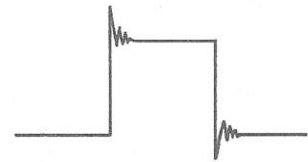

Figure 1
The sudden starting of an oscillator produces a sharp wave front with a possibility of over-shoot and the following stages running class C further sharpen the wave front. This transient response results in harmonics which splatter over adjacent frequencies causing key clicks. See Figure 1.
- () Referring to Figure 1 in this manual, drill three 5/32" diameter holes in the rear apron of the Transmitter chassis at the exact locations shown. Figure 1 on Page 3 is drawn to size and may be used as a template for hole layout.